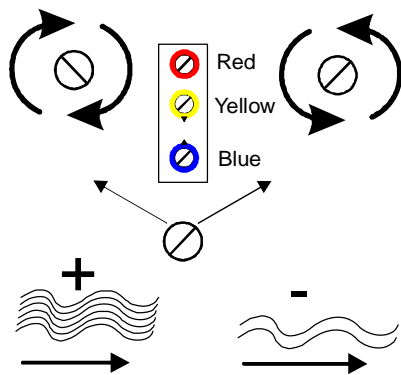

Figure 12: Flow Rate Adjustment
3. Adjust the control's flow rate (Figure 12):
Turn the adjustment screw **clockwise** to **raise** the flow rate required to activate the switch. See Figure 12.